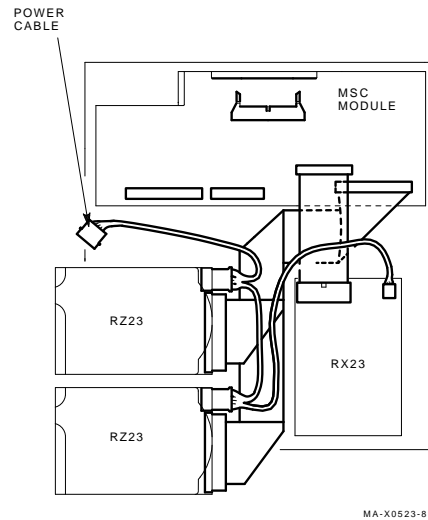

Figure 2-4 Connecting the RX23 Data and Power Cables
3. Connect the data and power cables to the RX23 and to the MSC module (Figure 2-4.)